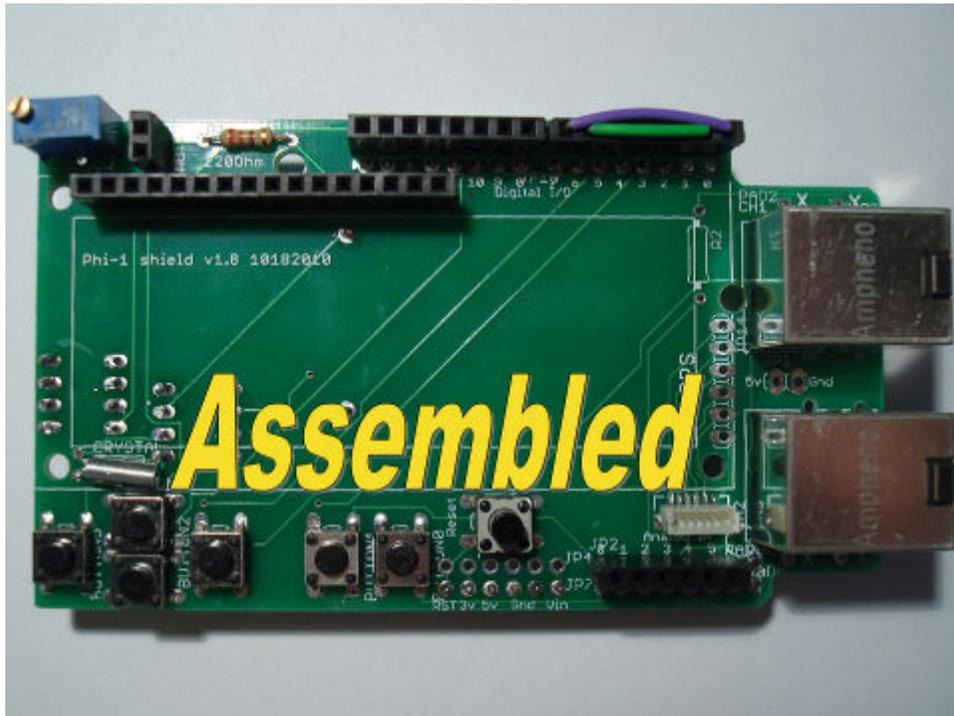

Fig. 3 Front side of a completely assembled shield with RJ11 and GPS connectors
To use the LCD: First jump pin 0 to pin 7, jump pin 1 to pin 6 (Fig. 3), Then use *LiquidCrystal lcd(8, 9, 7, 6, 2, 4)*; to initialize the display.
17. Jump pin 0 to pin 7 (purple jumper on fig. 3). Jump pin 1 to pin 6 (green jumper on fig. 3). **This enables the LCD.**(FAQ)